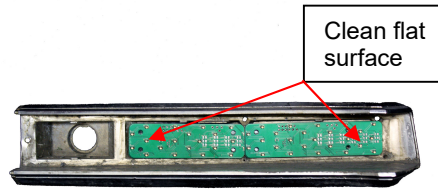

Figure 1
3. Clean the flat surfaces on the inside of the housing. (See Figure 1) Note: These surfaces must be clean and dry to assure the best adhesion of the mounting tape that will hold the LED panels in position.
- 6.4. Remove the cover tape from the mounting foam on back of panel. Align the LED panel within the gasket inside the housing. (See Figure 1) When LED panel is centered properly, press into place.